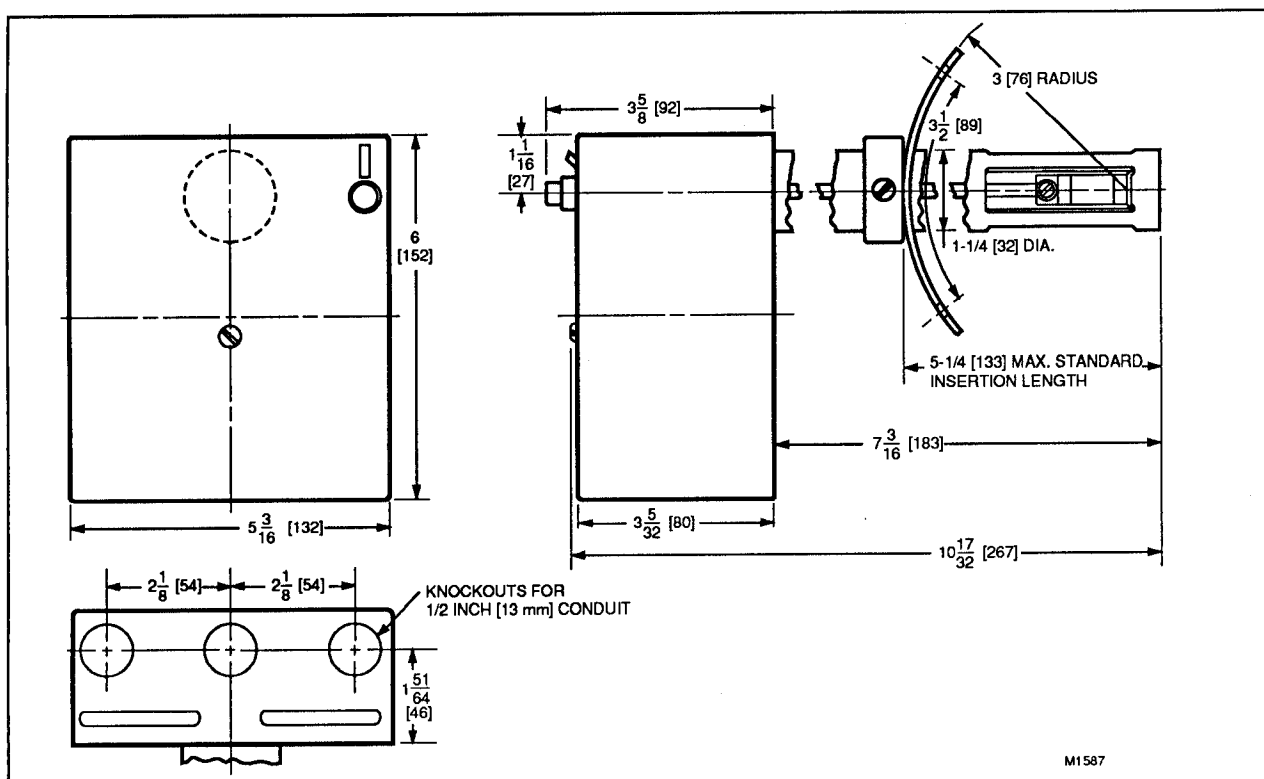

FIG. 1—INSTALLATION DIMENSIONS IN INCHES AND [MILLIMETERS].
**DIMENSIONS:** Refer to Fig. 1.**ELECTRICAL RATINGS (amperes):**